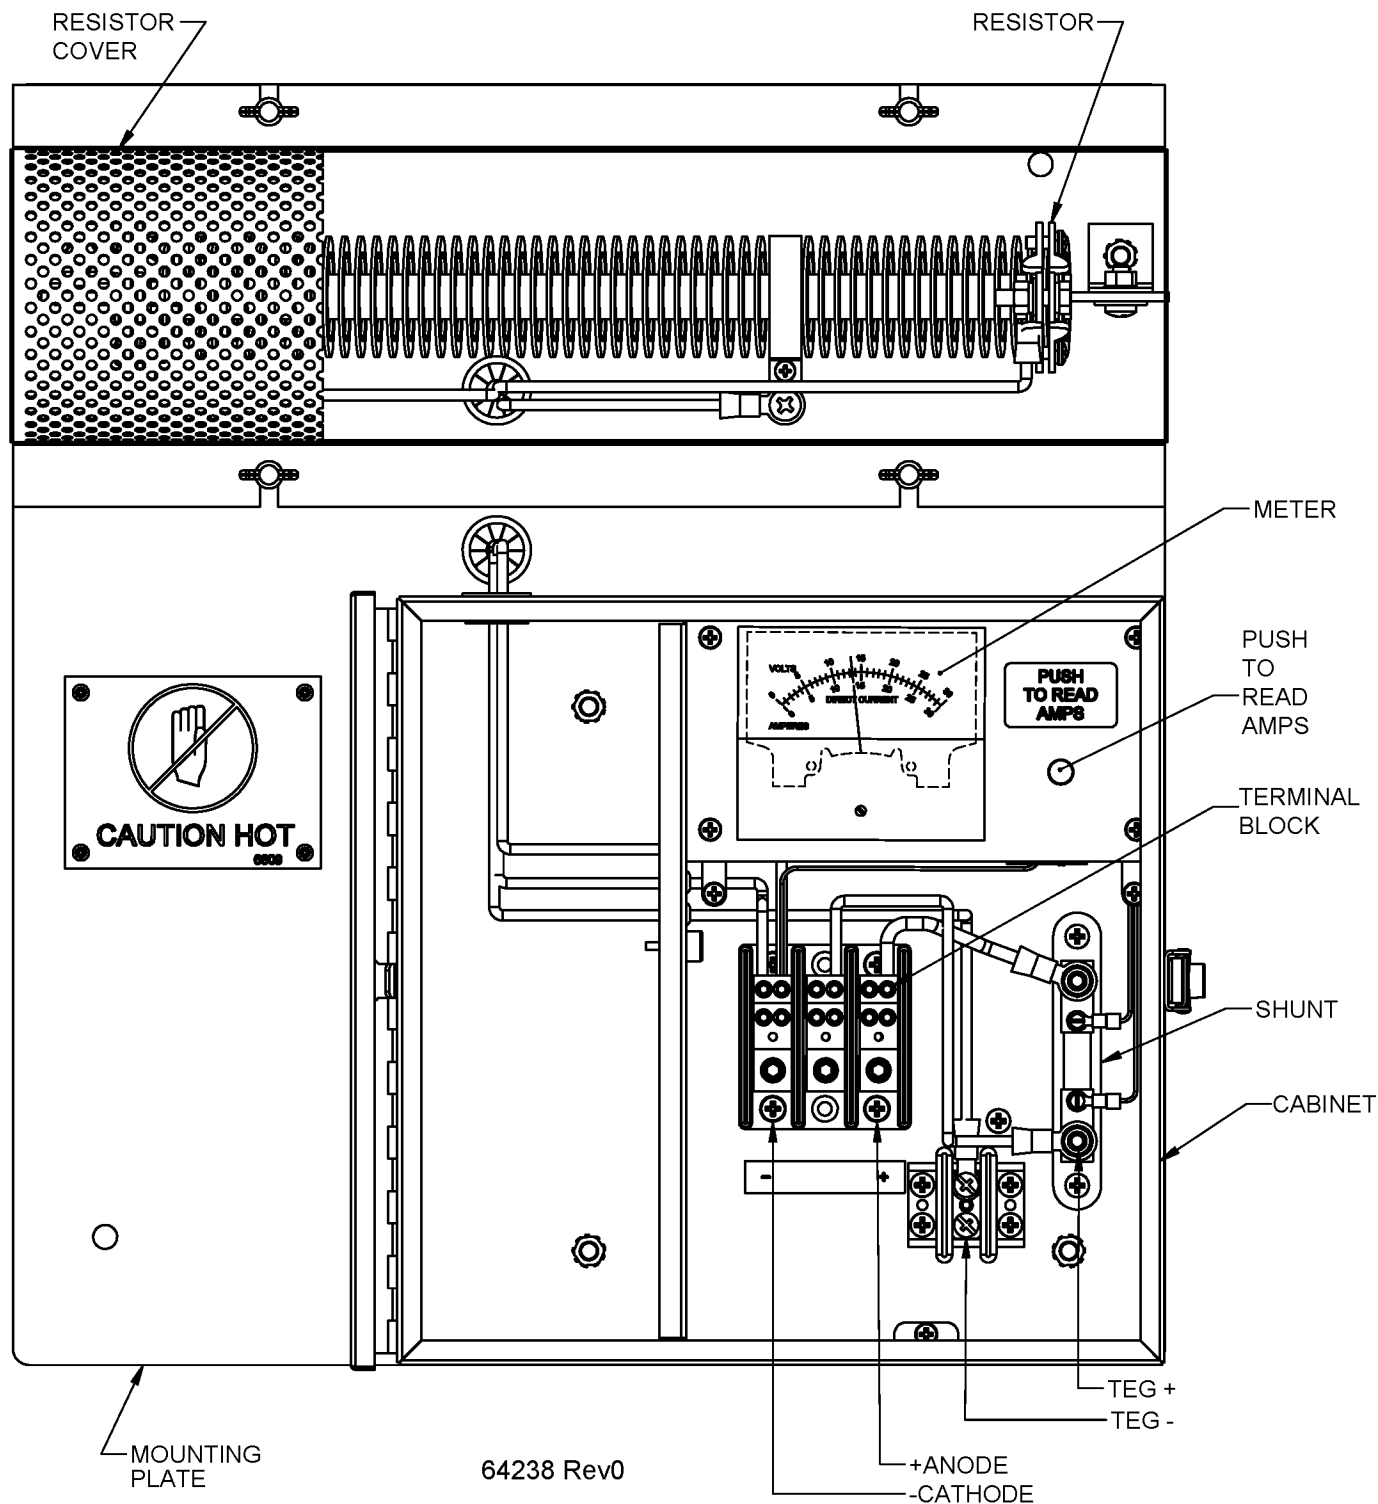

Figure 26 Cathodic Protection Interface Panel
The Cathodic Protection (CP) Interface System provides for adjustment and monitoring of power to the CP load. The anode and cathode cables enter the cabinet at the bottom and connect directly to the heavy-duty terminal block. Refer to Figure 26 for locations and descriptions of the major components of the CP interface cabinet.